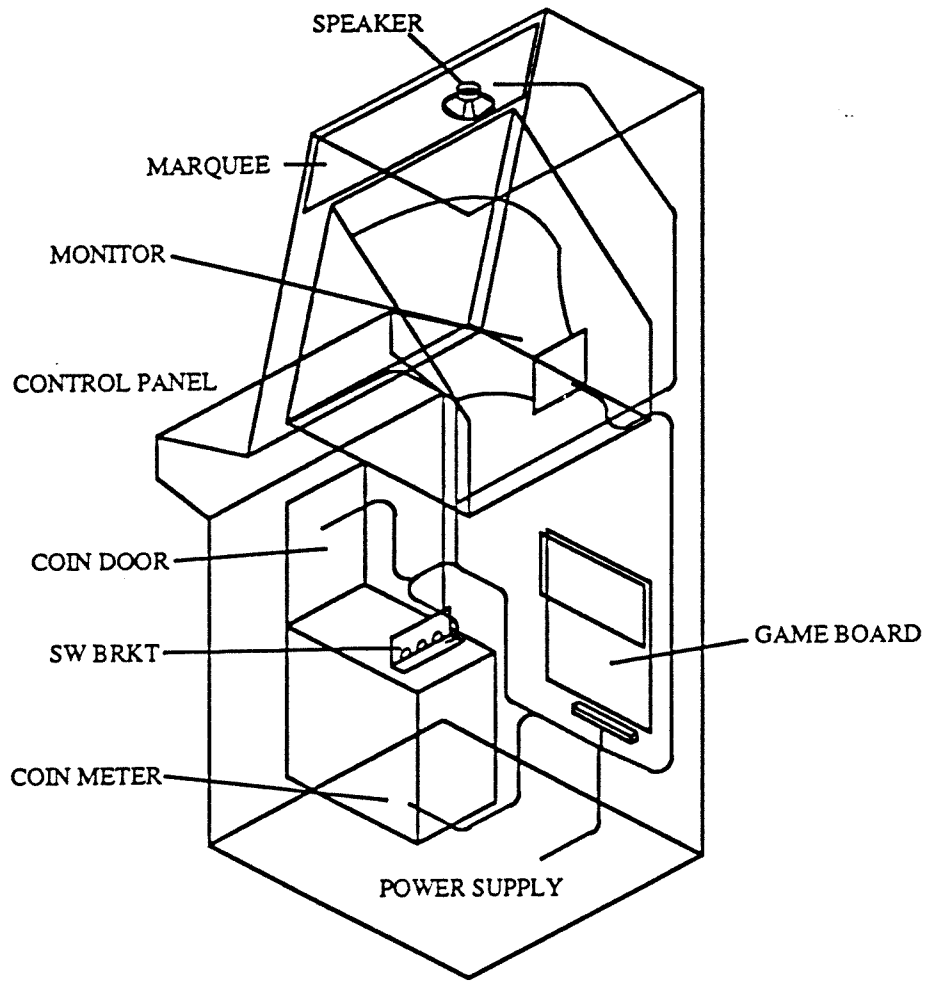

FIGURE 5
19. Install the Service Switch Assembly using 2 ea screws in the cabinet at either of the following locations (see figure 5):
29. Install the logic PCB inside the cabinet (see figure 5). Use wood screws to secure the PCB through its' mounting feet.